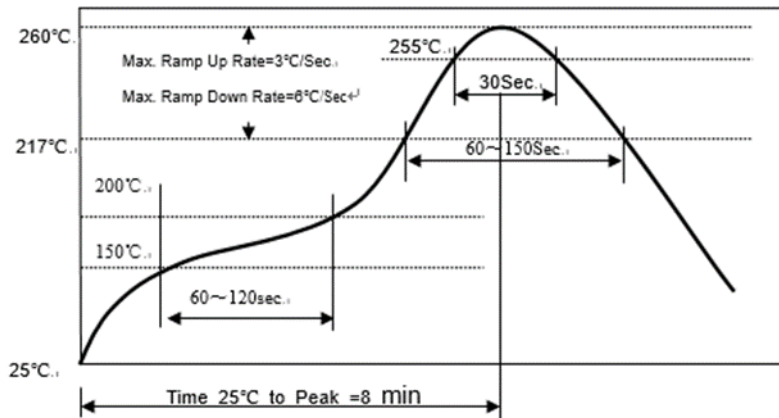

Fig. 11.1-1
- 7) Please refer to Fig. 11.1-1.